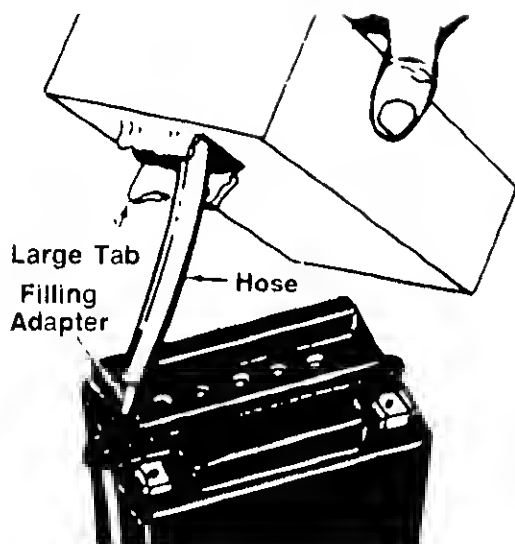

FIGURE 2.
6. Pull out hose from package and hold upright. Squeeze hose forcing all acid back into package. Cut off tip of hose and insert filling adapter. See figure 2.
7. Fill each cell to upper level marked on front of battery. Replace fill caps on battery. See figure 2.